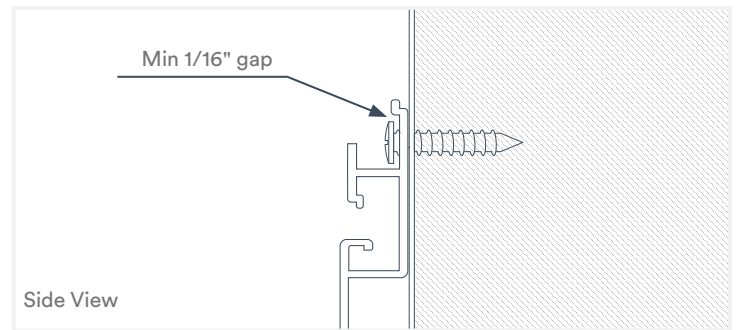

Fig. 2
- Allow a minimum of 1/16" (about the thickness of a dime) between the back of the screw head and the screw flange (Fig. 2)